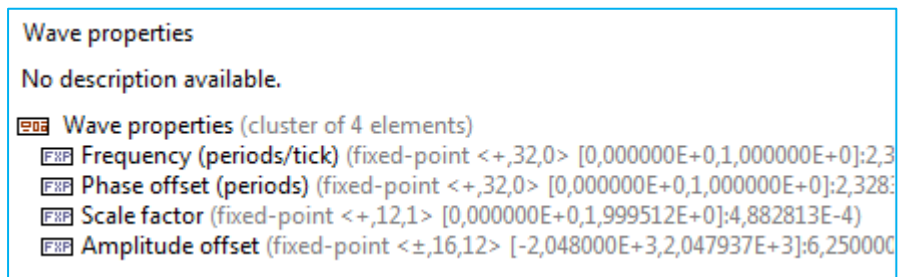

Fig. 5a. Wave properties.
- 7) “**Wave properties**” is a **cluster control of 4 fixed point elements** as shown in the Context Help window in Fig. 5a.